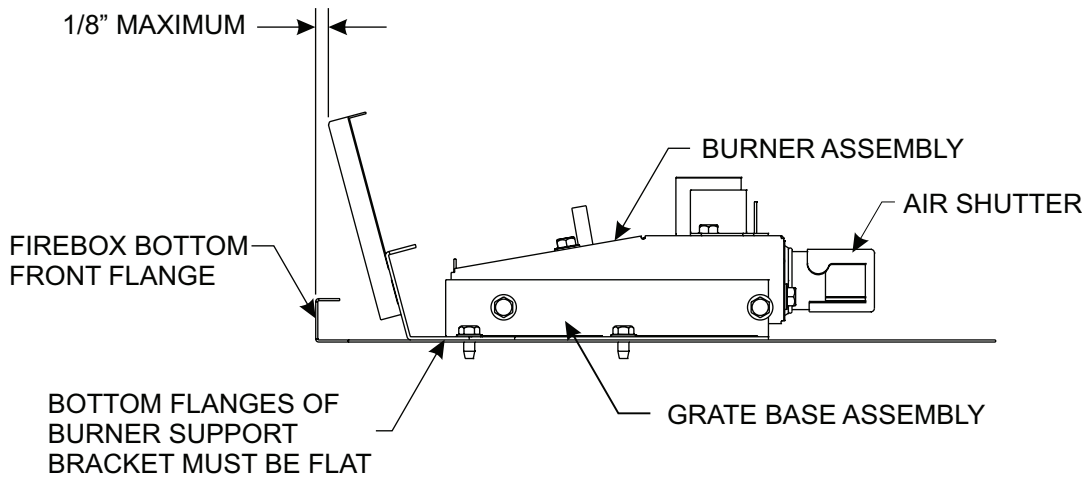
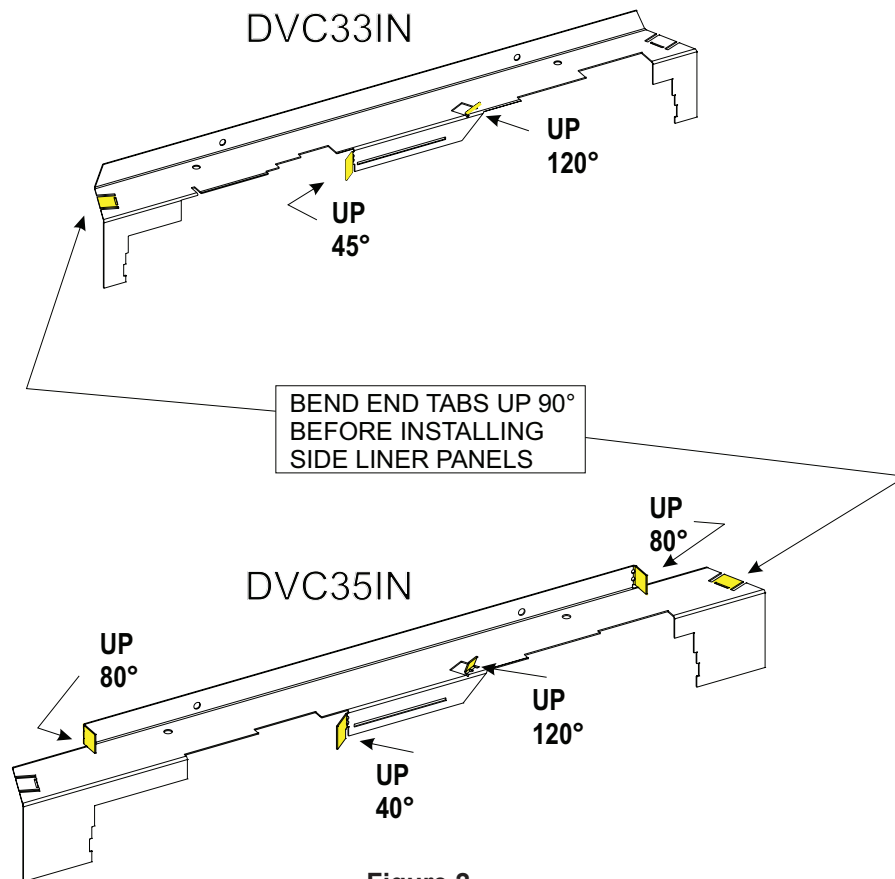

Figure 1
Figure 2
4. Using a 5/16" nut driver, remove the (2) screws that retain the rear log support bracket and discard this bracket.
6. Locate the (4) screws which secure the grate base assembly to the firebox bottom and remove these screws using a 5/16" nut driver. See **Figure 1** for reference.
3. Prior to installing the new burner assembly, refer to **Figure 1**. Make sure the bottom burner support flanges are not bent. Adjust the front grate if needed to ensure that the front grate tangs are flush within a 1/8" to the front flanges of the fire-box.
5. Secure the burner/grate base assembly to the firebox bottom with the (4) blunt style screws previously removed from original burner assembly. Do not over-tighten screws.
7. Prior to installing the new Rear Log Support bracket, use a pliers to bend the various locator tabs to the angles specified in **Figure 2**. Refer to the illustration shown for the model being repaired.
8. Install the new rear log support included using the (2) previously removed screws.